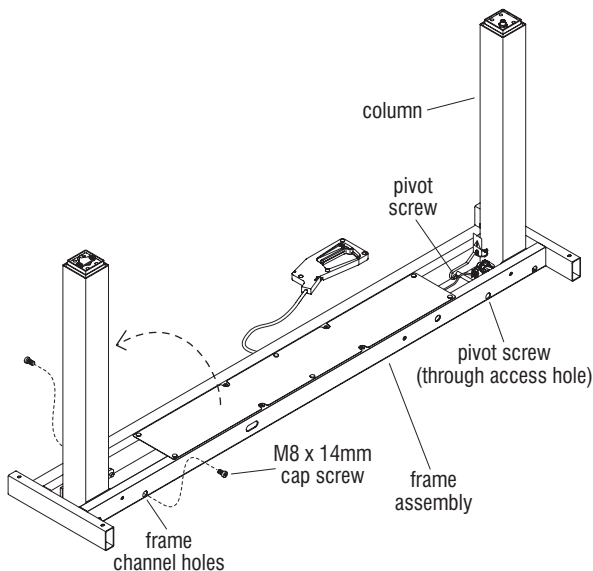

Figure 2
3. Locate the two pivot screws, one on each side of the frame assembly. Using a 6mm Hex Key, tighten both pivot screws, then tighten each of the four installed screws from step 2 above. Tighten all screws to 7 ft/lbs (Figure 2).